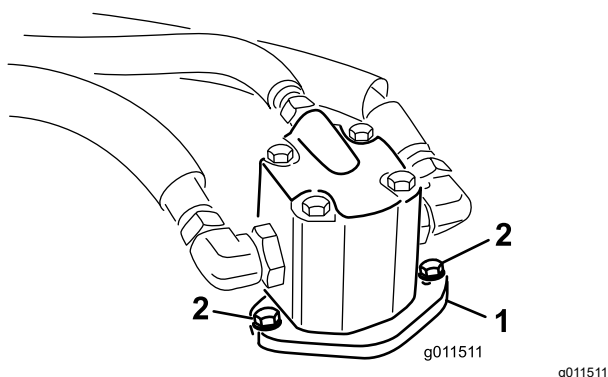

Figure 81
4. Remove the bolts securing the hydraulic motor to the cutting unit (Figure 81).